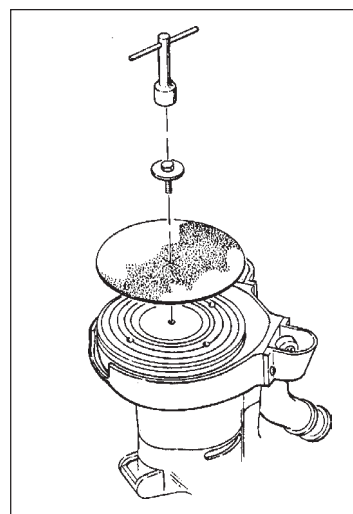

Figure 2
3. Remove screw and abrasive retainer. Center abrasive on pad and secure with abrasive retainer and screw. (Figure 2)